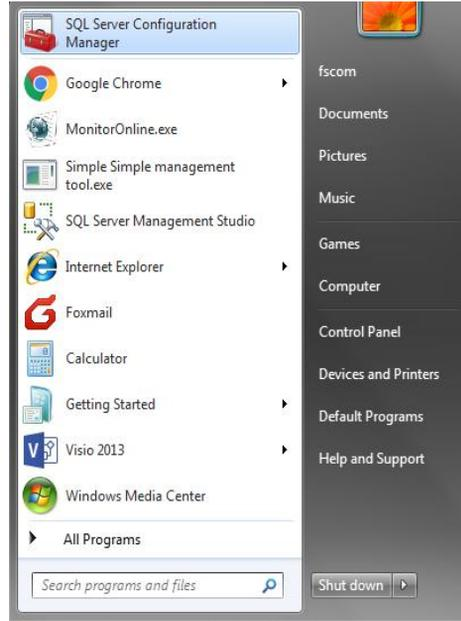

Fig.1.14 SQL Server Configuration Manager
- (1) Click the "start" to open control panel (see Fig.1.14).